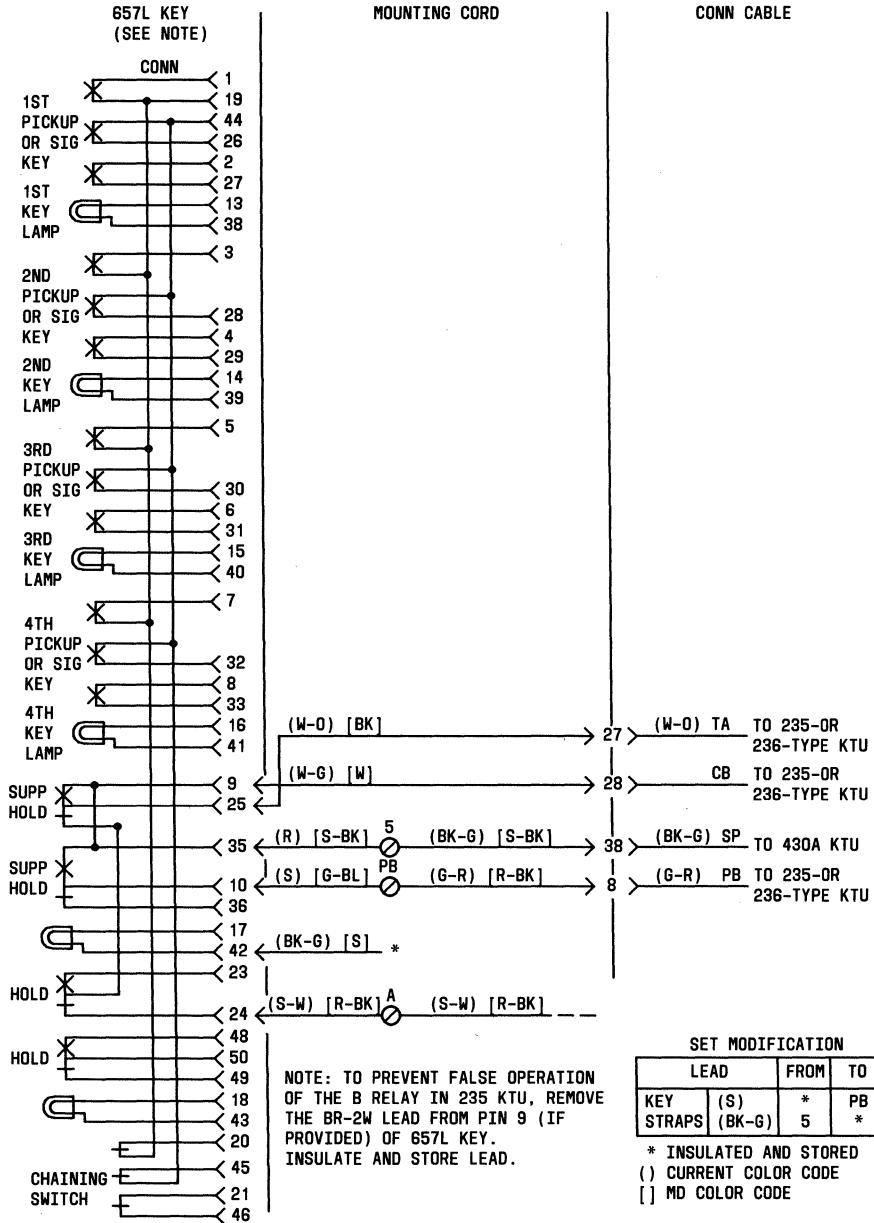

Fig. 6—Priority Hold Using 657L Key (First Module)
1.002 This addendum is issued to add new Fig. 6.
2.001 On Page 15, Fig. 6 is obsolete. A new Fig. 6 is shown in this addendum.
- Add information for Priority Hold, 2.04 and Fig. 6
2.04 ▶Priority Hold can be supplied in these sets by installing a 657L key in the first module and modifying set as shown in Fig. 6. Refer to Section 518-310-405 for connections to the 235- or 236-type KTU and to Section 518-215-125 and SD-69530-01 for connections to the 429A and 430A KTUs.◀